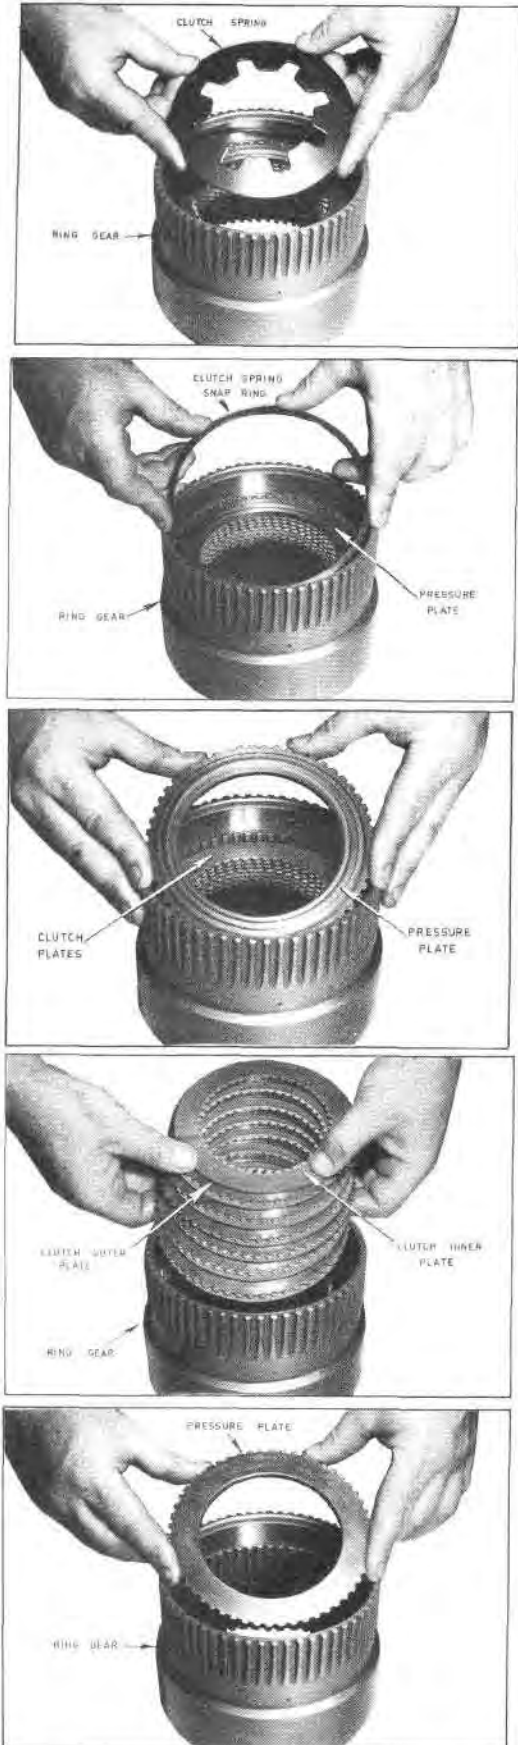

Fig. G36 — Forward Clutch Component Removal Sequence
21. Place the ring gear and clutch assembly, front face down, on a suitable ring or fixture which will clear the outside diameter of the forward clutch cylinder. Using a 2 1/4" diameter bar against the exposed inside hub of the clutch cylinder, press the clutch cylinder out of the ring gear. The remaining parts of the forward clutch can be removed in the order shown in Figure G36.